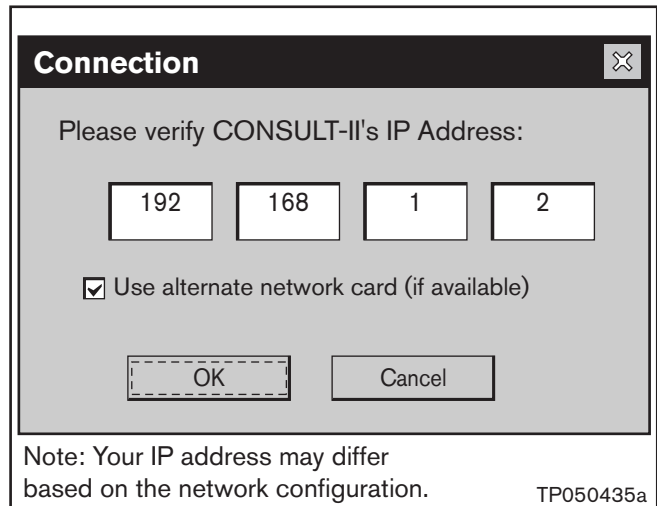

Figure 9
b. Verify CONSULT-II IP Address (see Figure 9). Then click on “OK”.